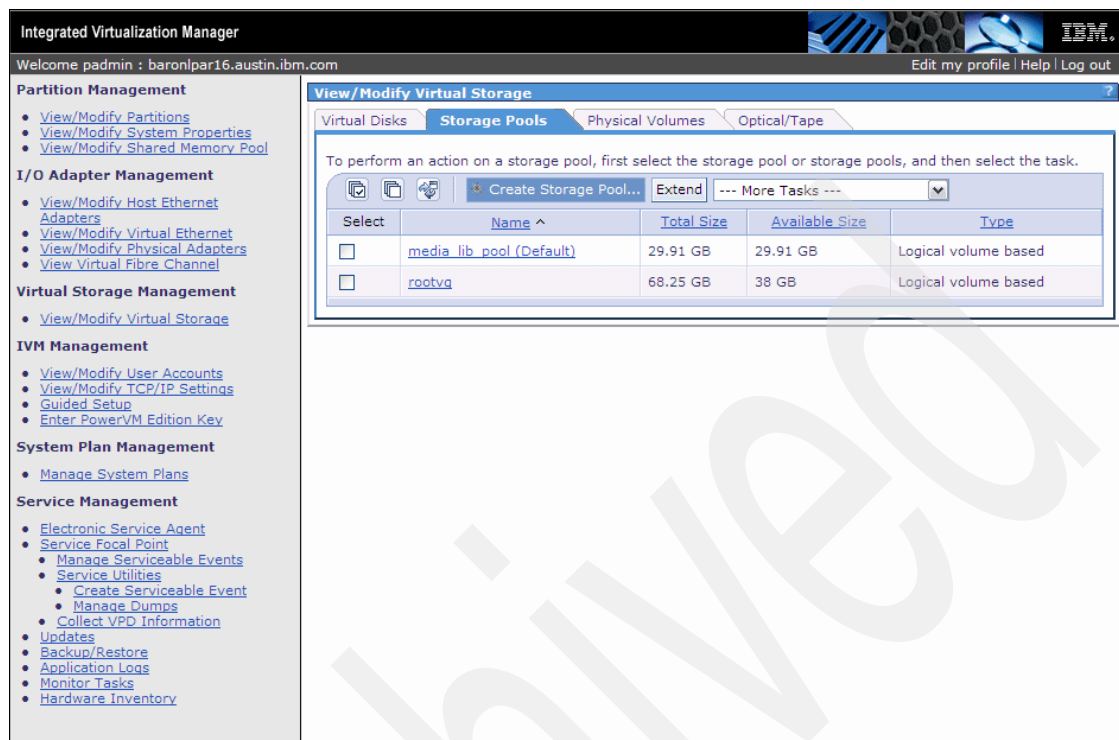

Figure 5-2 Starting the storage pool creation
2. The next window begins the storage pool creation process. Select **Create Storage Pool** as shown in Figure 5-2 on page 180. This pool will then be used for shared paging storage.